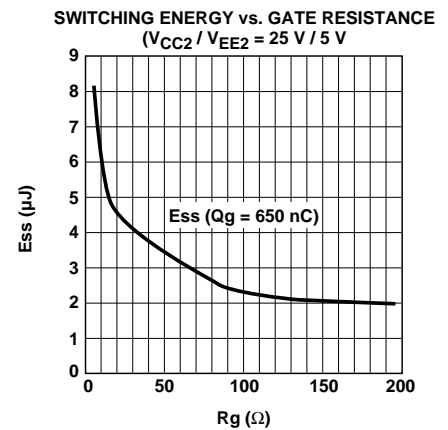

Figure 77. Switching Energy Plot for Calculating Average  $P_{switch}$  (for HCPL-316J Output Driving an IGBT Rated at 600 V/100 A).
2. Calculate total power dissipation in the part referring to Figure 77.
For  $R_G = 10.5$ , the value read from Figure 77 is  $E_{SWITCH} = 6.05 \mu\text{J}$ . Assume a worst-case average  $I_{CC1} = 16.5 \text{ mA}$  (which is given by the average of  $I_{CC1H}$  and  $I_{CC1L}$ ). Similarly the average  $I_{CC2} = 5.5 \text{ mA}$ .
$P_i = 90.8 \text{ mW}$ ,  $P_o = 314 \text{ mW}$ ,  $T_A = 100^\circ\text{C}$ , and assuming the thermal model shown in Figure 77 below.